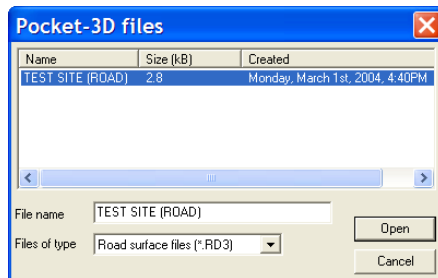

Figure 6-13. Select File and Click Open
3. On the **Pocket-3D files** dialog box, select the file type (*.rd3) and the desired file, then click **Open** (Figure 6-13). The Pocket-3D alignment file opens in 3D-Office.